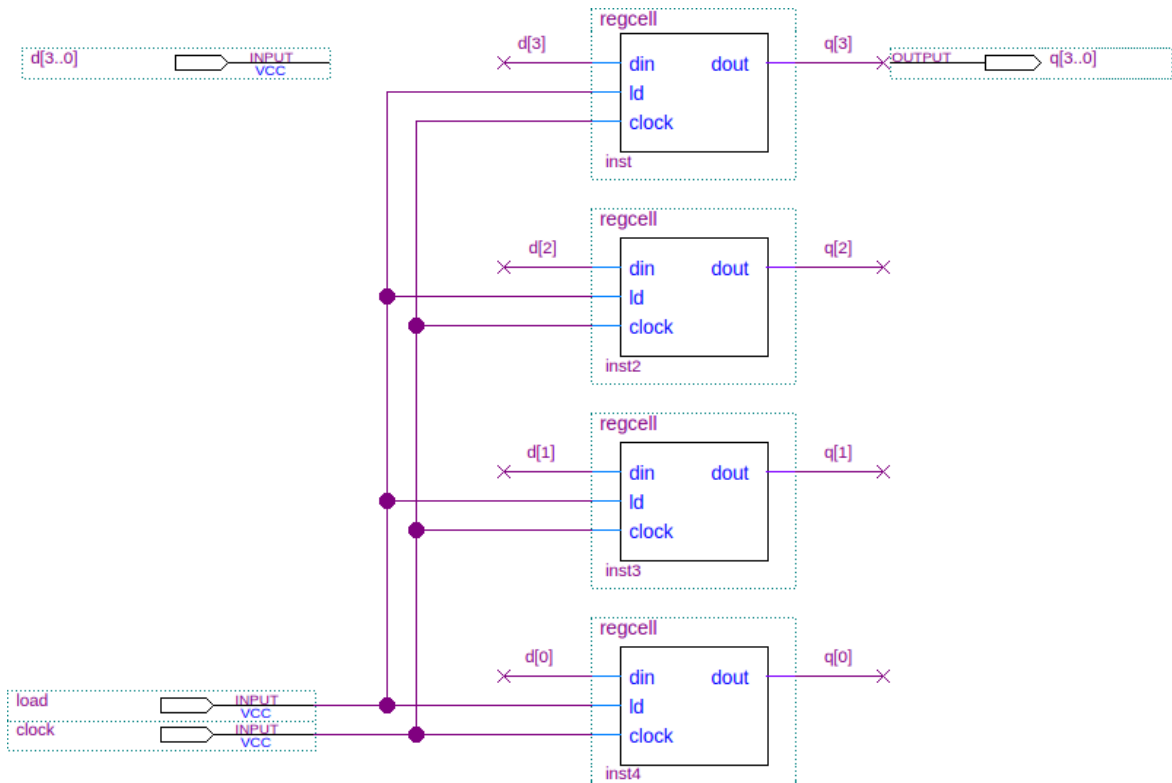

Figure 1.9: 4-bit data register schematic.
1. Instantiate four copies of **regcell** symbols and connect as shown in Fig. 1.9.